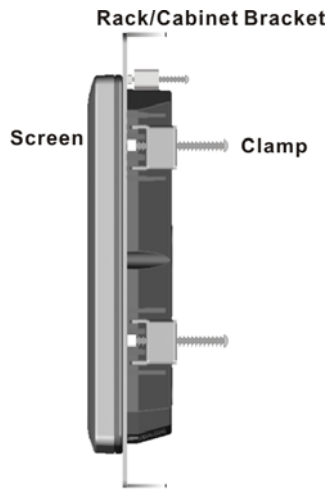

Figure 4-16: Secure the Rack/Cabinet Bracket
- Step 3:** Tighten the screws that pass through the rack mounting clamps until the plastic caps at the front of all the screws are firmly secured to the bracket (**Figure 4-16**).